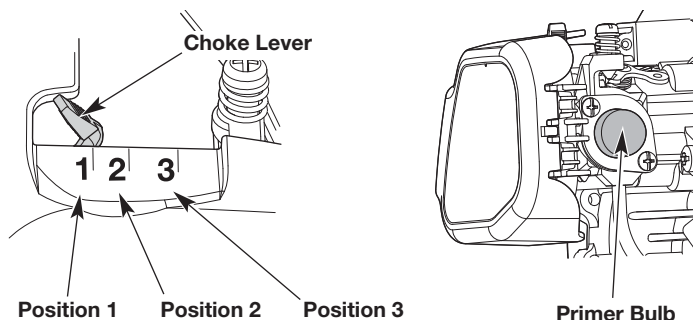

Fig. 6
3. Slowly press and release the primer bulb **10 times** (Fig. 6). If fuel cannot be seen in the primer bulb, press and release the primer bulb until fuel is visible.
4. Move the choke lever to **Position 1** (Fig. 6).
7. Continue to squeeze the throttle control. Move the choke lever to **Position 2** (Fig. 6).
10. Continue to squeeze the throttle control. Move the choke lever to **Position 3** (Fig. 6) and continue warming the engine for an additional 60 seconds. The unit may be used during this time.
**IF...** the engine hesitates, return the choke lever to **Position 2** (Fig. 6) and continue the warm-up.